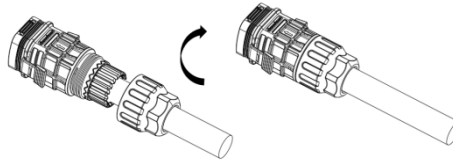

Figure 6-20-4 Nut lock the housing
- 4) Fit the wire grommet into the wire clip. Then push the clip into the housing. Nut lock the housing with torque $8 \pm 2 \text{ N}\cdot\text{m}$, as shown in Figure 6-20-4.